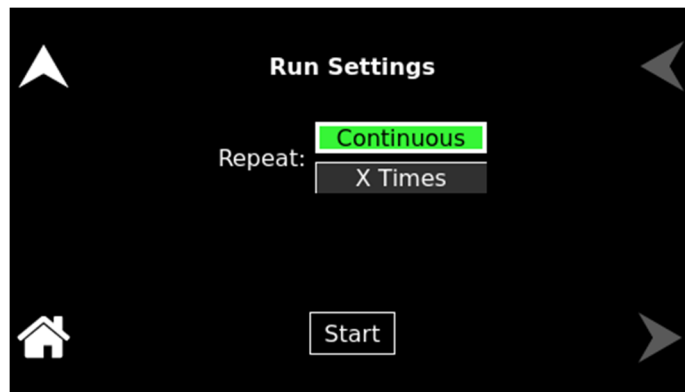

Figure 8-11: RUN Menu
9. Navigate to the RUN menu of the TRANSIENTS screen; refer to Figure 8-11.